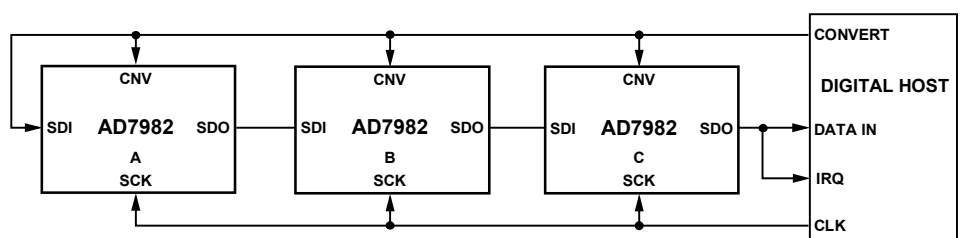
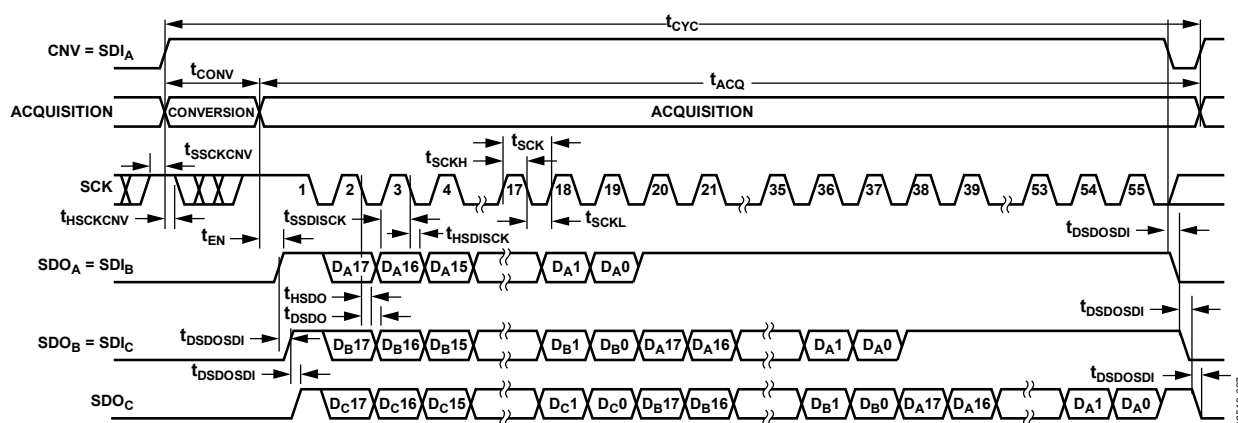

Figure 39. Chain Mode with Busy Indicator Connection Diagram
Figure 40. Chain Mode with Busy Indicator Serial Interface Timing
- In the chain mode if SCK is high during the CNV rising edge (see Figure 40).
A connection diagram example using three AD7982s is shown in Figure 39, and the corresponding timing is given in Figure 40.
subsequent data readback. When all ADCs in the chain have completed their conversions, the SDO pin of the ADC closest to the digital host (see the AD7982 ADC labeled C in Figure 39) is driven high. This transition on SDO can be used as a busy indicator to trigger the data readback controlled by the digital host. The AD7982 then enters the acquisition phase and powers down.